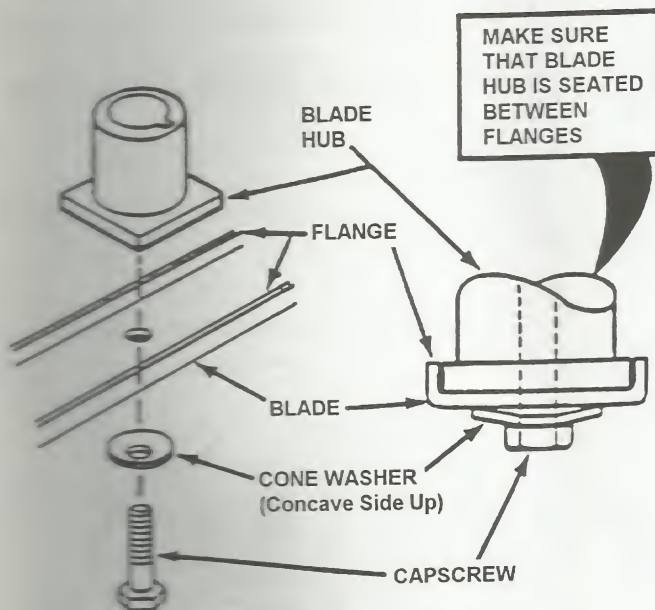

FIGURE 4.2
3. Remove blade. See Figure 4.2.